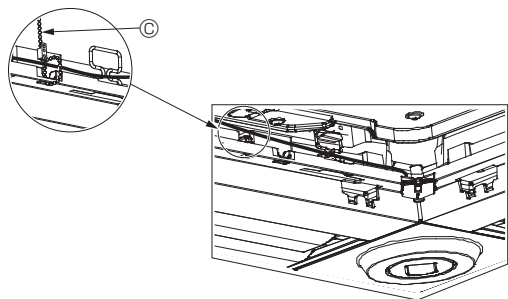

Fig. 10-12
- Secure the i-see Sensor and signal receiver wires to the panel with the fastener as shown in the diagram so that there is no slack in the wires, and then cut off the excess end of the fastener. (Fig. 10-12)
- If the position of the i-see Sensor was changed from the "○" position (E) to the "□" position (F), change the function settings. (Refer to page 13.)